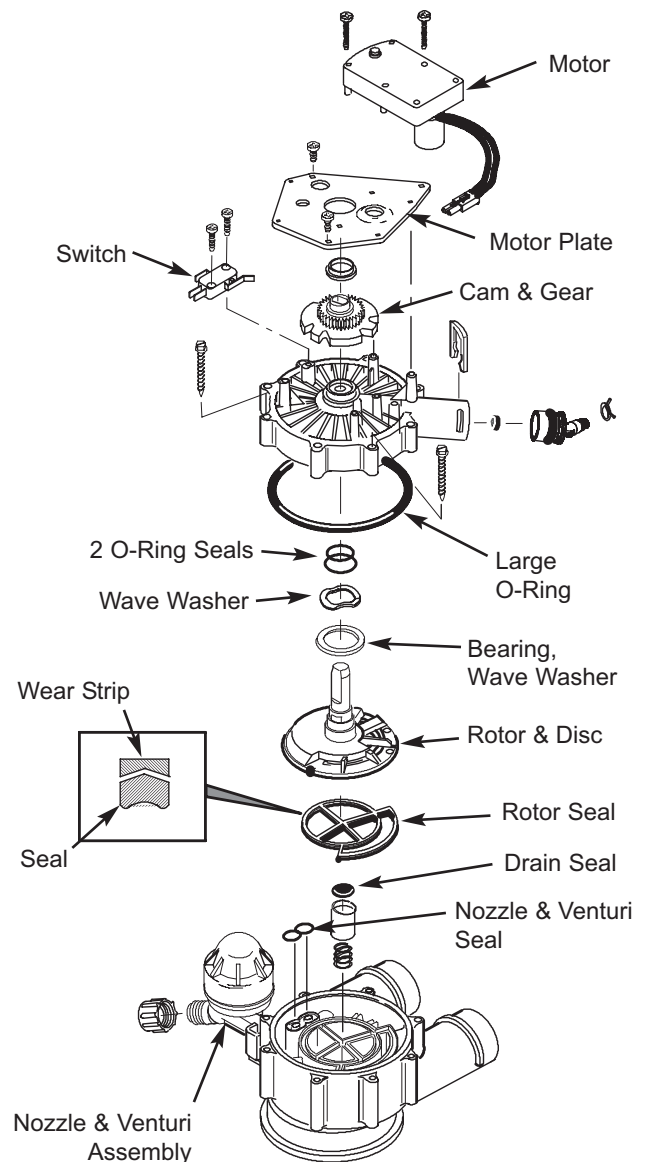

Figure 1
7. Install the rotor seal by first placing the seal into the valve groove, oriented as shown in Figure 1. Apply a light coating of silicone grease to the seal crossing ribs. Then carefully center the wear strip on the seal and push it downward onto the seal.